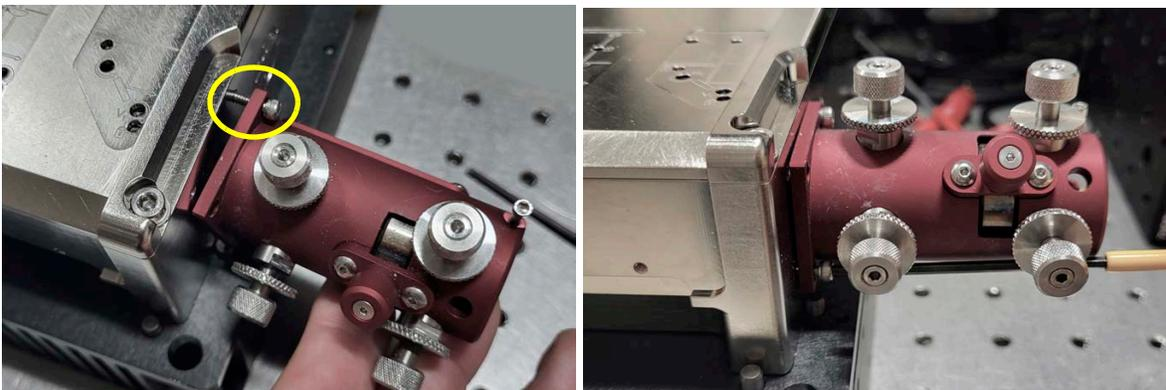

Figure 8-30. Attach Four Screws Lightly
6. Attach the four screws lightly, hand-tight at first. Do not torque yet. Refer to Figure 8-30.